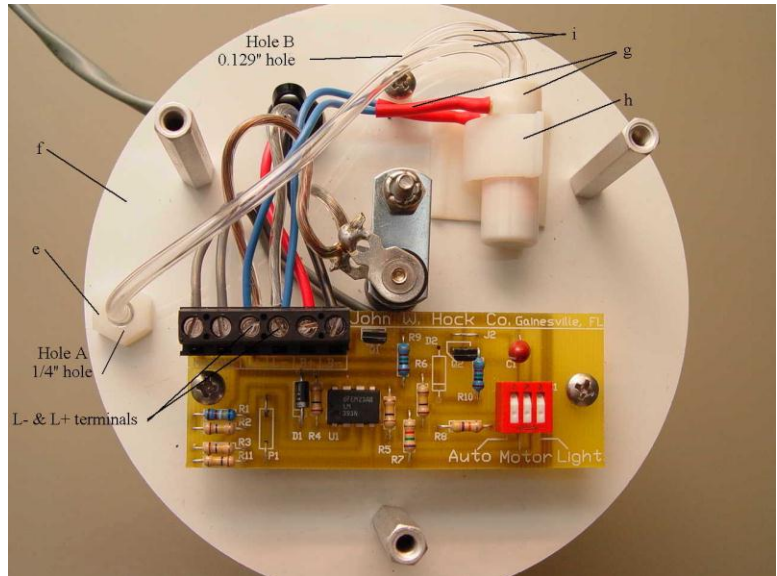

Figure 1. Top view of plate
### Parts included in the CO2 retrofit (see Figure 1)
2. Drill and then tap with an 8-32 tap a hole in the acrylic body of the trap at the location shown in figure 1. This tapped hole should be directly under hole **B** and below the support screw connecting the body of the trap with the white aluminum plate as seen in figure **C**. Screw in the 90°-angle fitting with the 1/16" barb for the tubing pointing up.